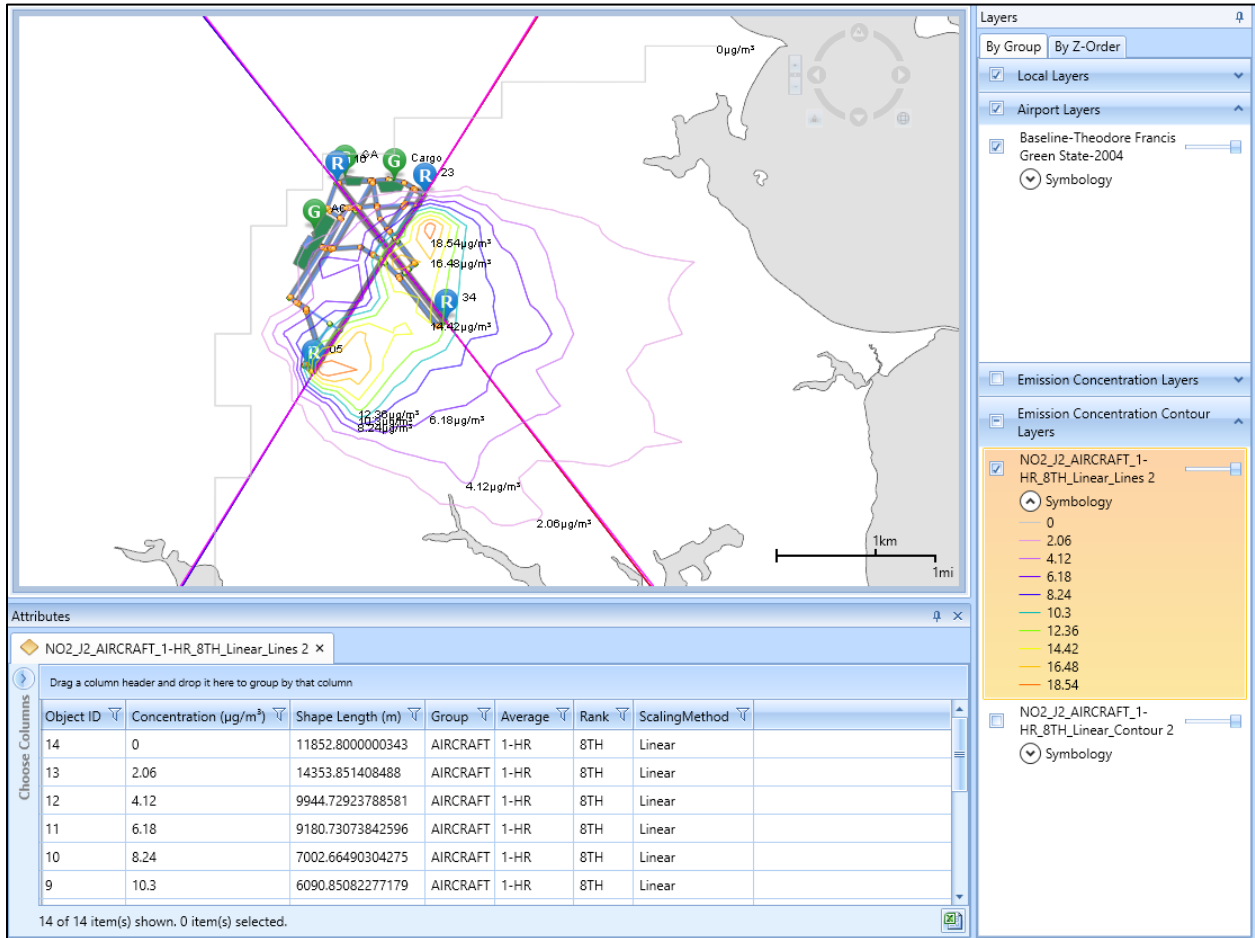

Figure 5-46 Sample Concentration Contour Layer with Attributes – Shown with Airport Layers
6. Click *OK* to generate and display the Concentration Contour Layers on the map (Figure 5-46) and in the *Layers* manager.
The following attributes are available for all Concentration Contour Layers: object ID, concentration, shape length, shape area, group, average, rank, scaling method, and concentration (Figure 5-46). See Appendix B.3 for descriptions of the attributes.